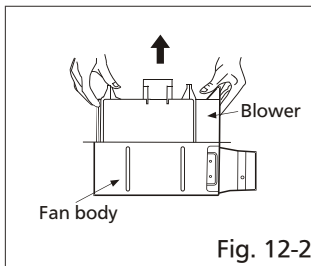

Fig. 12-2
2. Remove blower section. (Fig.12-2)